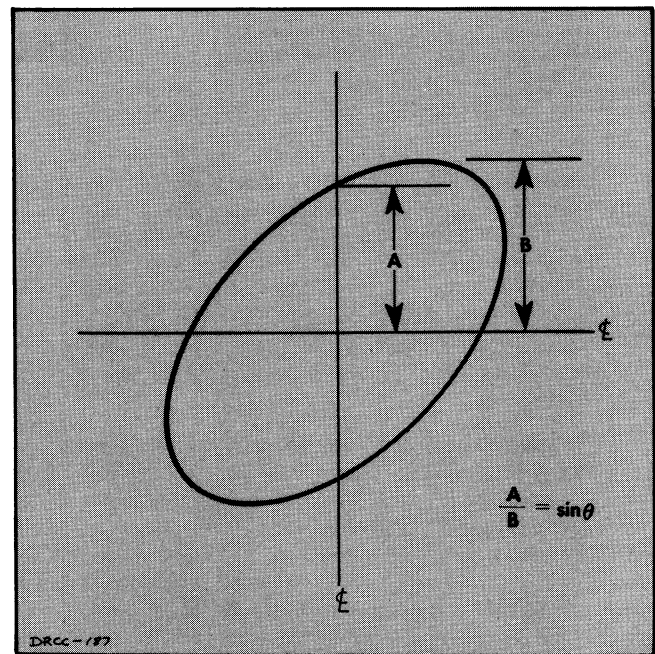

Fig. 3-5. X-Y method of calculating phase difference (θ) of two sine waves.
3. Measure the distances A and B on the display as shown in Figure 3-5.